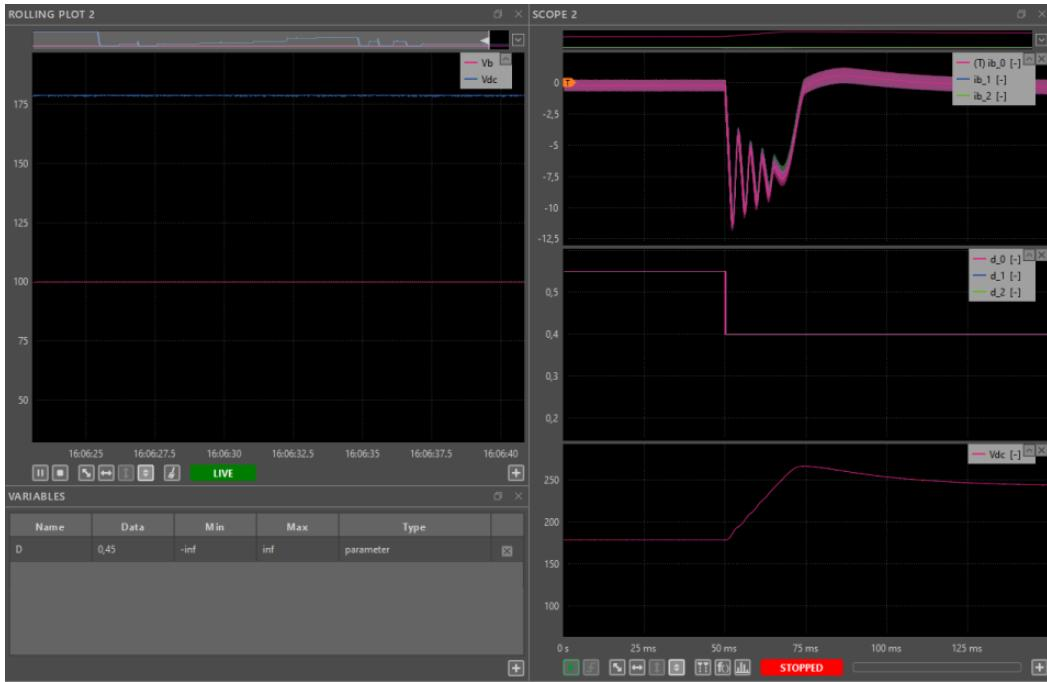

Figure 6. Results obtained after applying steps in the modulation index.
7. Generate steps in the duty cycle by using the transient generator located in the right-hand panel. At $t=50$ ms, D is modified from 0.45 to 0.6. This step will result in a higher DC bus voltage. In addition, as the required power increases during the transient and Vb keeps constant, the current through each leg of the interleaved boost will also increase. The obtained results can be observed in Fig. 6.